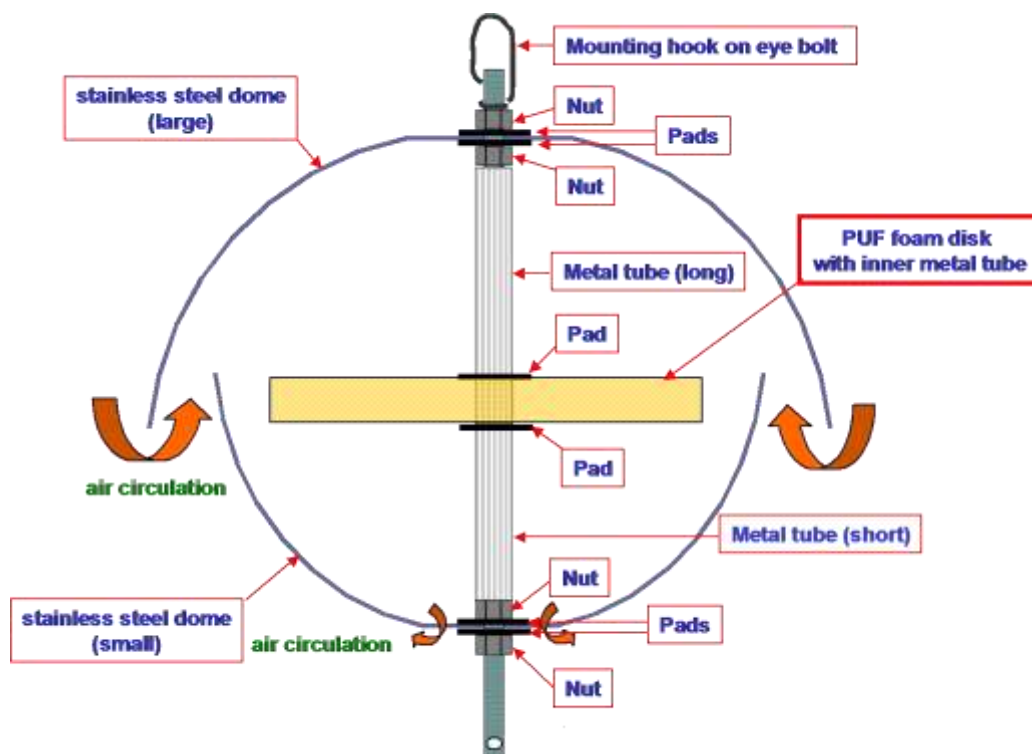

Figure 1: The design of a PAS-PUF sampler (Illustration: Anne Katrine Halse, NILU).
Figure 1) is a type of passive air sampler that collects air through natural diffusion. The sampler accumulates gaseous contaminants in air on a polyurethane foam disk (PUF; adsorbent) and is well suited for sampling of slightly less volatile compounds. Cleaned foam discs are delivered from NILU and assembled in the sampler when the sampling period begins. The foam disc is exposed for 3 months. At the end of the sampling period, the foam disc is removed from the sampler and packed in the package from a new unexposed foam disk that will be used for the next sampling period.
- e. 2 metal tubes (long +short) + very short (to be placed in the centre of the PUF (see fig. 1))
Once you are in the field, mount the sampler on the metal rod (figure 1). **Begin from the top**, and the following parts should be mounted, in the following order: Begin with the metal rod with threads and mount the following parts: nut, washer, bowl (stainless steel, big), washer, nut (tighten this one properly), metal tube (long), washer,